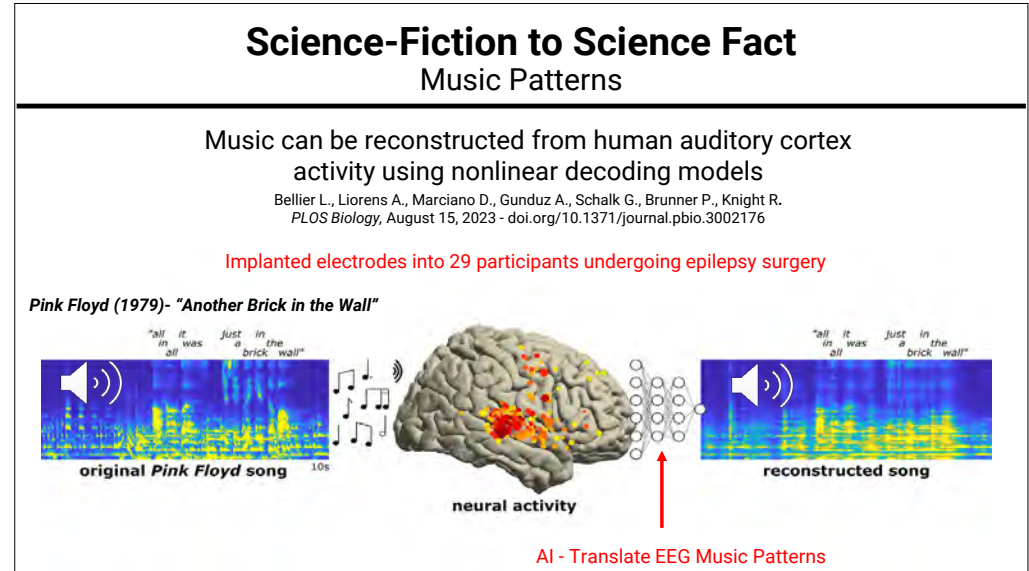

Figure 1. Bellier et al. (2023) uses AI algorithms to decode auditory stimuli and reproduce "Another Brick in Wall".
Presumably, the Russians had cracked the code at reading brain waves and developed this technology to control the aircraft with the pilot's mind. Forty years ago, the thought of this technology was science fiction. Fast forward to 2023 and recently a group from the University of California Berkley¹ used predictive artificial intelligence (AI) modeling of auditory stimuli to reconstruct the classic song "Another Brick in the Wall" (figure 1). This act demonstrated the plausibility of using brain waves to determine real-time cognitive activity. Indeed, applications of AI regarding aerospace medicine are broad and have the potential to dramatically improve safety by recognizing hazards and preconditions that may predispose aviators to mishaps. Some of the ways AI may assist aviators in the cockpit include predictive analysis, real-time monitoring, alert systems, sensor fusion, machine learning for pilot training, data analysis and accident investigation.